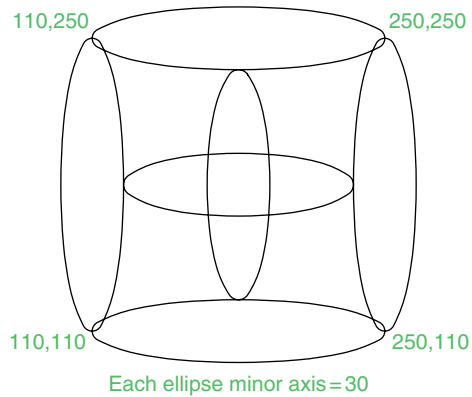

Fig. 3.36 Exercise 5
5. With the **Ellipse** tool, construct the drawing in Fig. 3.36.